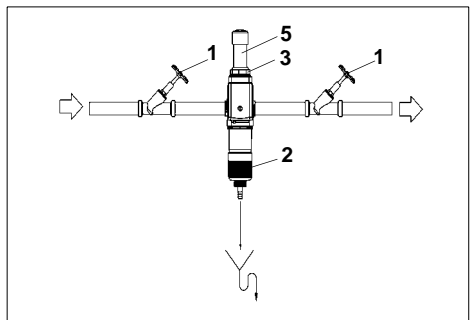

Fig. 10: Cartridge exchange IV
6. Screw in the union nut (3) clockwise and tighten it hand-tight (approx. 1 Nm) (see Fig. 10).
7. Turn the handwheel for backwashing (2) clockwise all the way to the stop.
8. Open the shut-off valves (1) again.